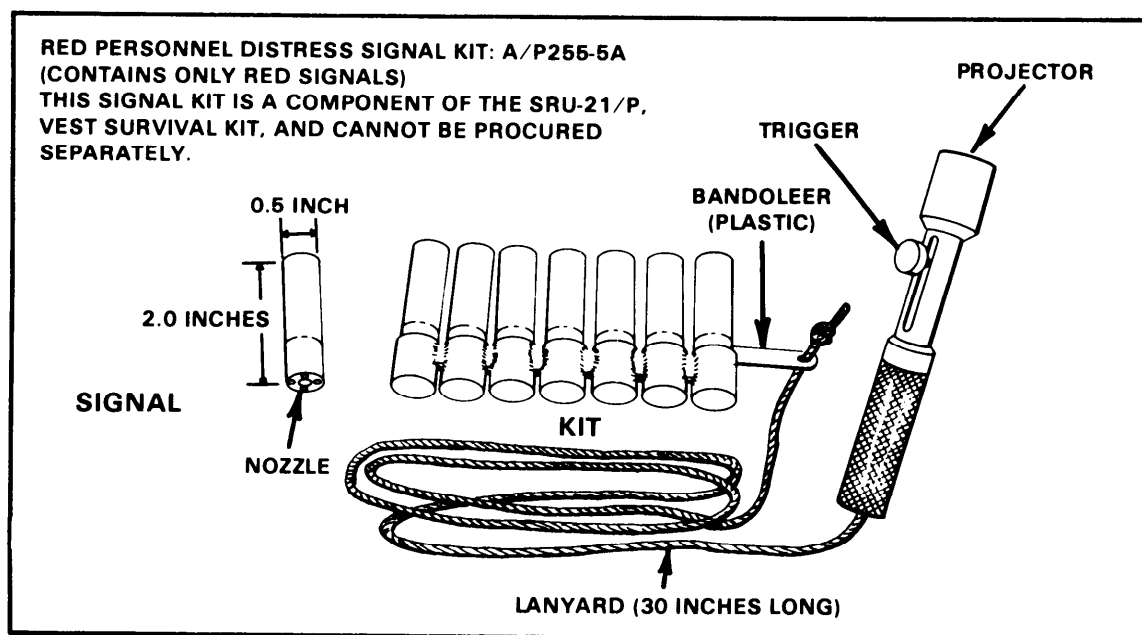

Figure 5-9. Signal kit 2.
(1) Contents. This kit contains only red illumination ground signals. The projector and the bandoleer plus seven signals make up this kit (Figure 5-9). The burning time for these signals is 10 seconds at 100,000 candlepower.